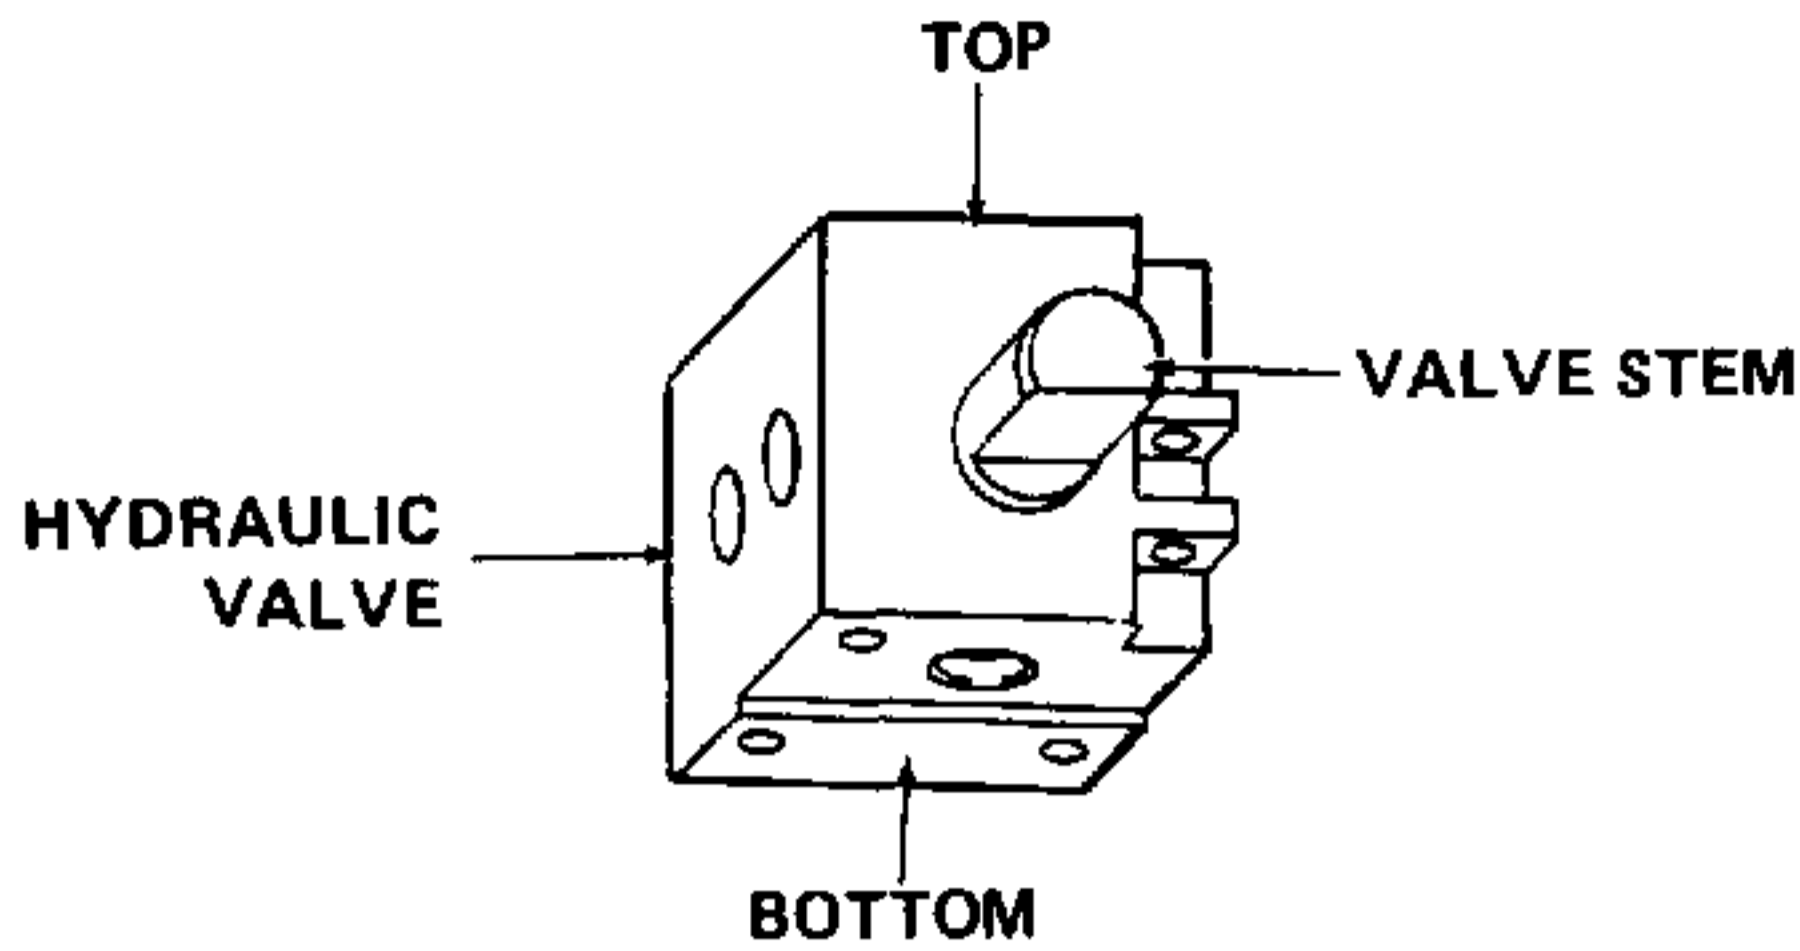

Figure 7-73. Turning the Valve Stem on the Hydraulic Valve.
Refer to Figure 7-73.
7. Carefully wipe any debris from hydraulic valve (1, Figure 7-66) and remove plastic protective plug from the bottom of the valve. (Bottom of valve is identified in Figure 7-73.)